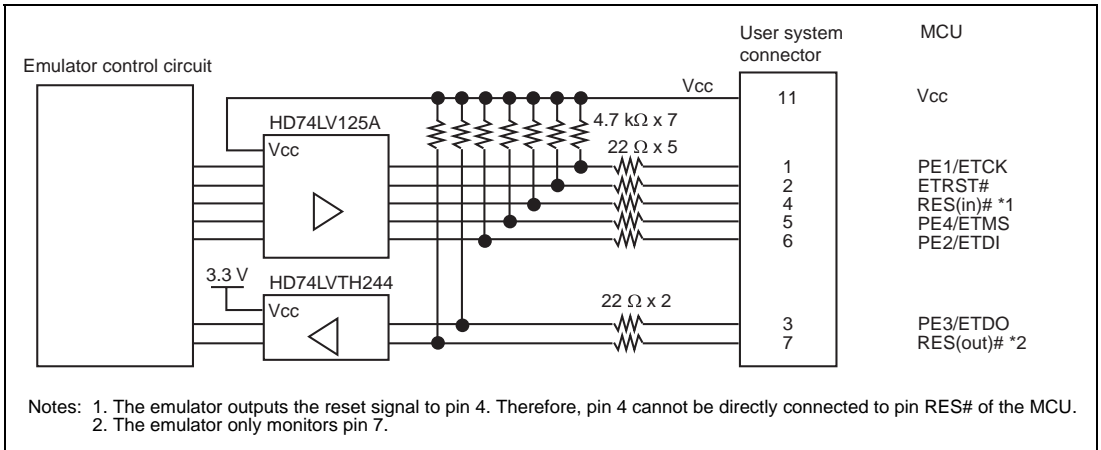

Figure 1.9 Interface Circuit in the Emulator (Reference)
8. Figure 1.9 shows the interface circuit in the emulator. Use this figure as a reference when determining the pull-up resistance value.